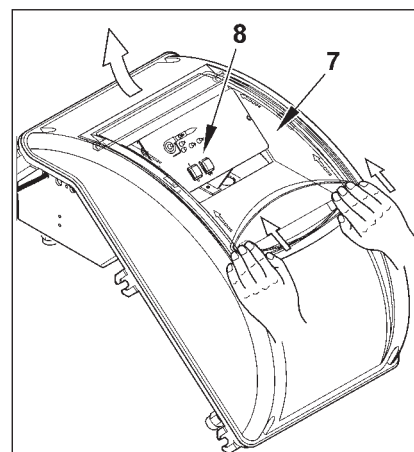

Fig. 4
- 4) To reclose the electrical panel lid, tighten the 4 screws (1) with a tightening torque of about 5 Nm to ensure correct tightness. At this point, to access the control panel (8), unhook the transparent door (7), pressing gently with your hands in the direction of the arrows shown in figure 4, slide it a short distance to separate it from the lid.